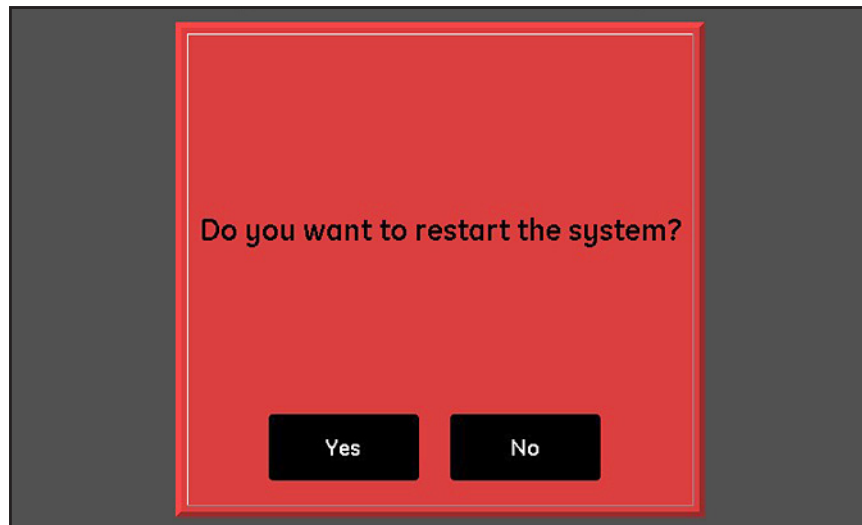

Figure 30: Restart Confirmation Screen
3. At the confirmation screen shown in *Figure 30* below, tap the **Yes** button to restart the unit or tap the **No** button to cancel the request.
To restart (i.e., reboot) the moisture.IQ system, tap the **Restart** button. Then, tap either **Yes** or **No** at a confirmation screen similar to the one shown in *Figure 30* on page 35.